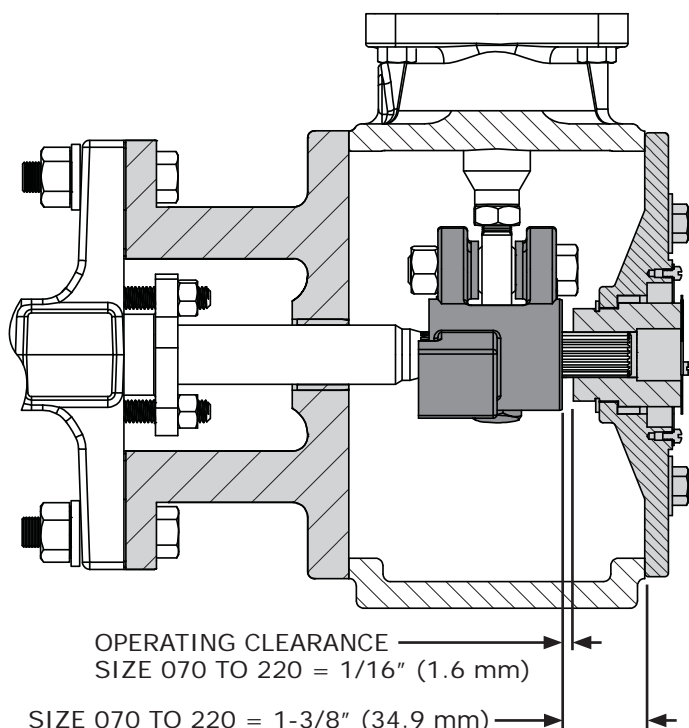

Figure 7 *Lever Operating Clearance*
- 15 Adjust the position of the lever (Key 32) so that the rod end bearing (Key 31) will be in alignment between the cap screw holes of the lever. **Note:** Refer to Figure 7 for lever operating clearance. It may be necessary to remove the positioner plate (Key 46) or the access plate (Key 48) in order to verify the lever operating clearance.